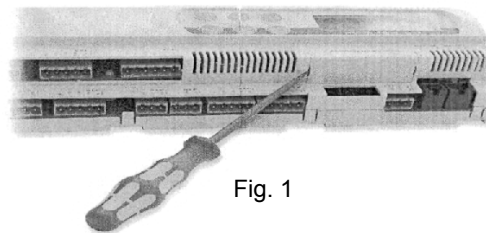

Fig. 1
- Switch off the pCO2 and remove the "expansion memory" cover with a screwdriver (see "Copy from pCO2 to the Software Key" on page 3–15/Fig. 1).
- Switch off the pCO2 and remove the "expansion memory" cover with a screwdriver (see Fig. 1).